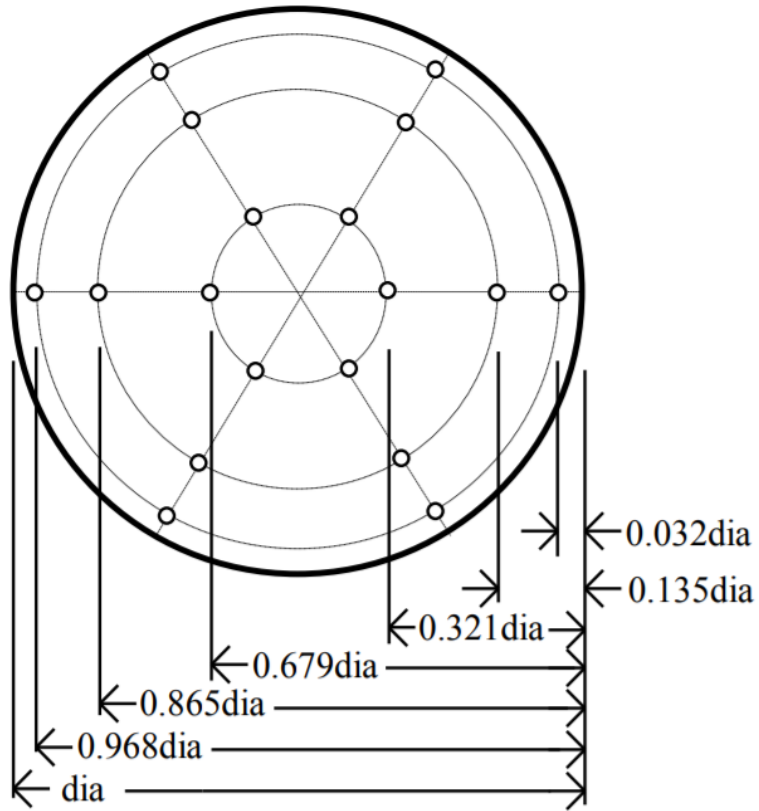
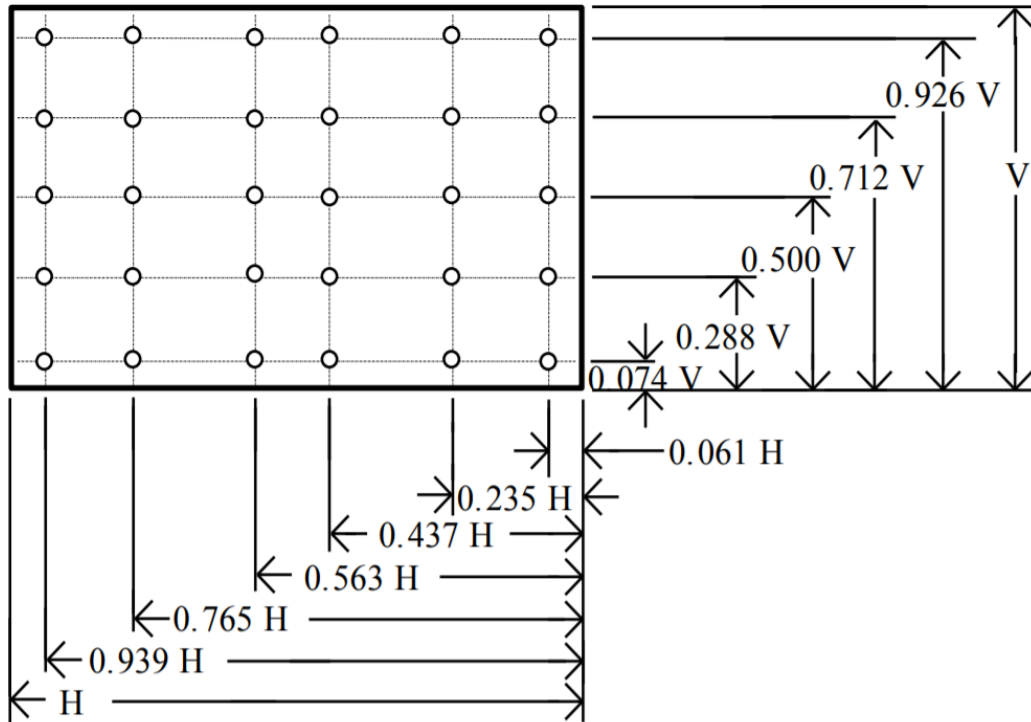

Figure A.10.12: Measurement points for a circular duct using the log-Tchebycheff method.
Figure A.10.13: Measurement points for a rectangular duct using the log-Tchebycheff method.
2. For a circular duct, it is important to measure the airflow along the points shown on Figure A.10.12. The same applies for a rectangular duct as shown on Figure A.10.13.